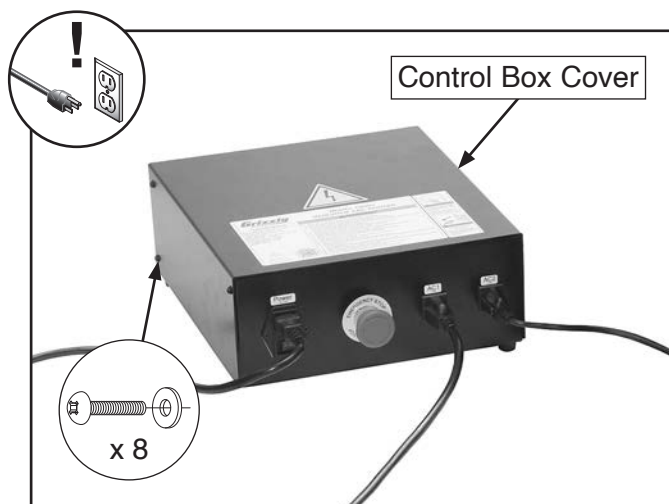

Figure 84. Location of control box cover fasteners.
7. Remove (8) Phillips head screws and flat washers securing control box cover, then remove cover (see **Figure 84**).